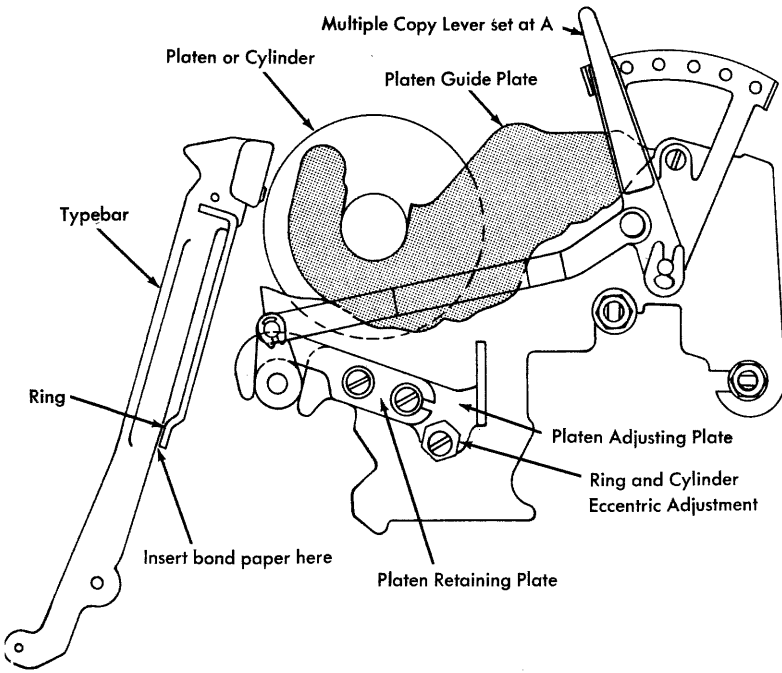
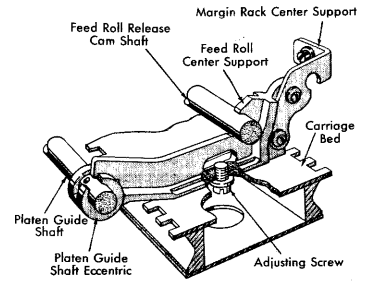

Figure 20. Platen Ring and Cylinder Adjustment
Figure 19. Feed Roll Center Support Adjustment
4. Make the ring and cylinder adjustment by first loosening the feed roll center support screw through a hole in the bottom of the carriage bed (Figure 19). Loosen the rear screw in each platen retaining plate (Figure 20). Rotate the eccentric nuts in the platen adjusting plates.
To test for ring and cylinder, insert a sheet of bond paper into the typewriter and move the multiple copy lever to A. Place a piece of bond paper about one-half inch wide and four inches long, between the typebar and ring (Figure 20). The paper should be gripped tightly when a typebar is held up to the platen with the thumb against the typebar at the ring. Place the paper between the ribbon and the paper on the platen, and, by holding the typebar as before, check that there is a slight drag as the test paper is withdrawn. Repeat this test at both
5. The feed roll center support must be repositioned to touch the eccentric collar on the platen guide shaft after any change in ring and cylinder adjustment. On carriages longer than 12 inches, loosen the margin rack center support(s) to reposition the feed roll center support(s) (Figure 19).